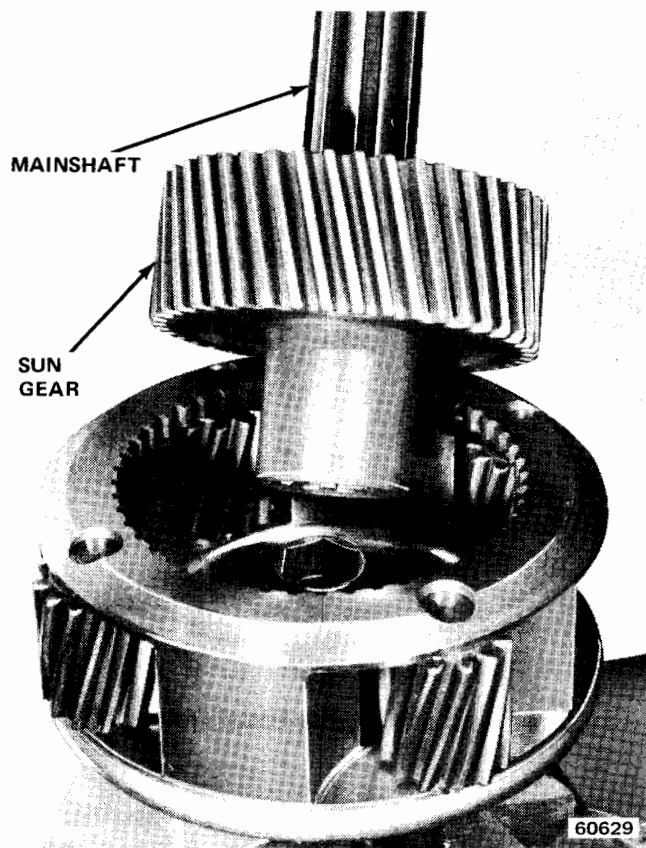

Fig. 8-28 Removing Sun Gear and Main Shaft
(8) Remove pinion cage lock plate and needle bearings.
(9) Remove sun gear and main shaft from pinion cage (fig. 8-28). Do not attempt to disassemble sun gear and main shaft.